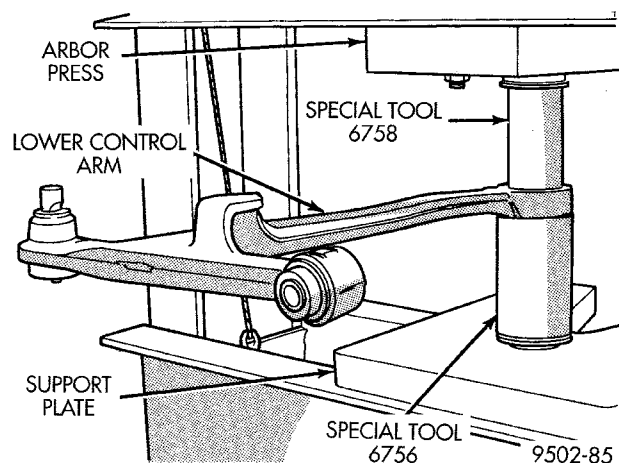

Fig. 77 Special Tools Assembled For Removing Rear Bushing
(1) Remove the lower control arm assembly from the vehicle. See Lower Control Arm in the Removal And Installation Section in this group of the service manual for the required removal procedure.
(2) Position lower control arm in an arbor press supported at rear bushing using Receiver Cup, Special Tool 6556 (Fig. 77). Position Remover/Installer, Special Tool 6758 on top of rear control arm bushing (Fig. 77).